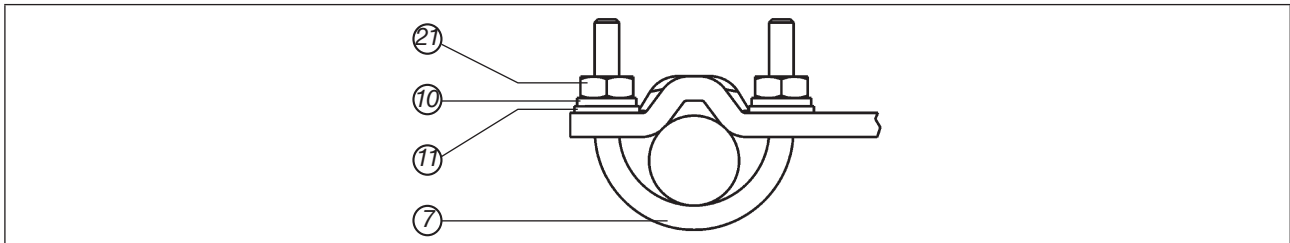

Fig. 27: Attaching the positioner with the mounting bracket; for actuators with a columnar yoke
→ Attach the mounting bracket to the columnar yoke using the U-bolt ⑦, the washers ⑪, the spring lock washers ⑩ and the hexagon nuts ② (see “Fig. 27”).